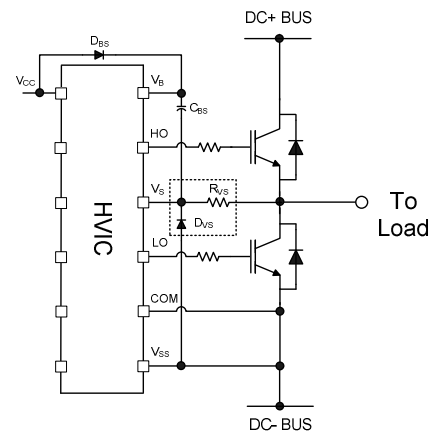

**Figure 35: Supply capacitor**
**Supply Capacitor:** It is recommended to place a bypass capacitor ( $C_{IN}$ ) between the  $V_{CC}$  and  $V_{SS}$  pins. This connection is shown in Figure 35. A ceramic 1  $\mu\text{F}$  ceramic capacitor is suitable for most applications. This component should be placed as close as possible to the pins in order to reduce parasitic elements.